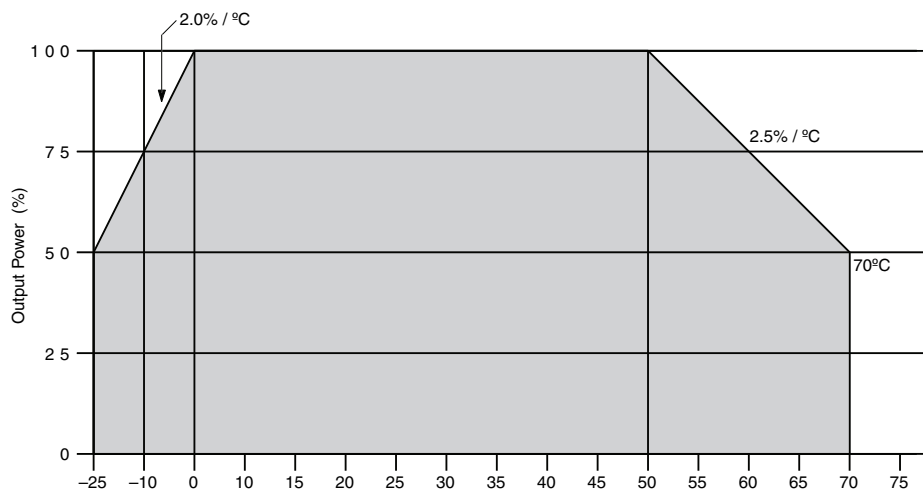

Figure 3. Temperature Derating
Operating Temperature	0 to +50°C @ full rated power; -25 to +70°C @ 50% rated power (see Figure 3)
Cooling	Free air convection with derating (see Figure 3 and Technical Notes)
9. Temperature Derating (See Figure 3): All DMS-PS-CM supplies are specified to operate at their full rated power over the temp range of 0°C to +50°C in still air (convection cooling) without any thermal derating. For operation over +50°C in still air, derate the output power linearly by 2.5% per °C down to 50% rated power at +70°C. To operate the units at full rated power between +50°C and +70°C, a minimum forced-airflow of 100 LFM is required. For operation below 0°C, derate the output power linearly by 2.0% per °C down to 50% rated power at -25°C.